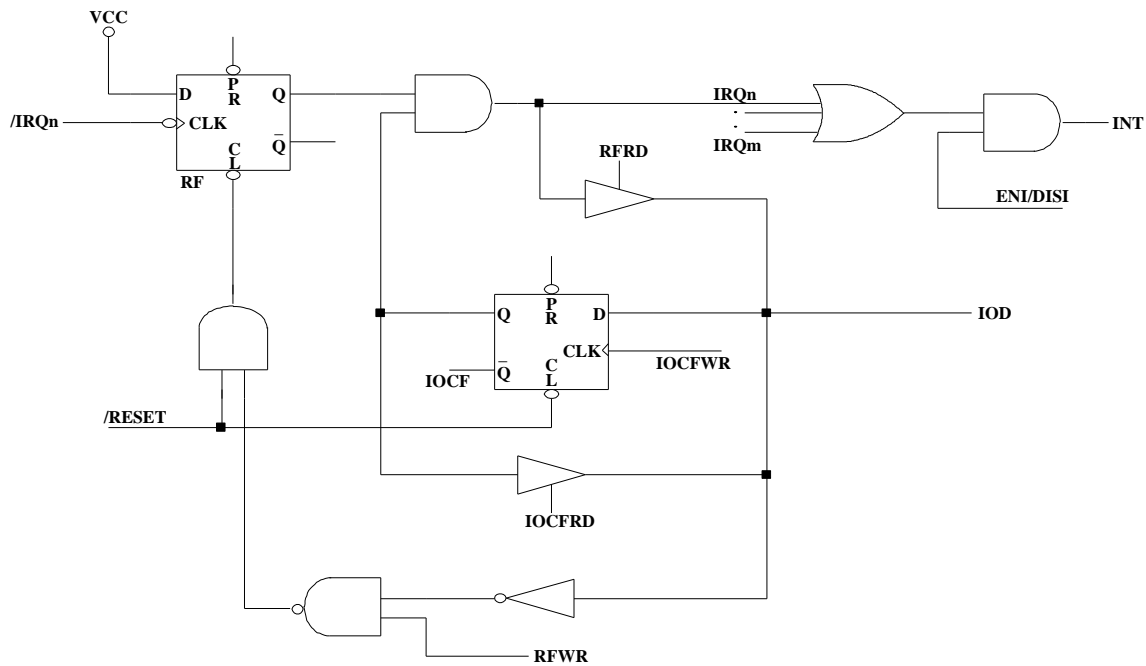

Figure 10 Interrupt Input Circuit
The flag (except ICIF bit) in the Interrupt Status Register (RF) is set regardless of the status of its mask bit or the execution of ENI. Note that the outcome of RF will be the logic AND of RF and IOCF (refer to Figure 10). The RETI instruction ends the interrupt routine and enables the global interrupt (the execution of ENI).